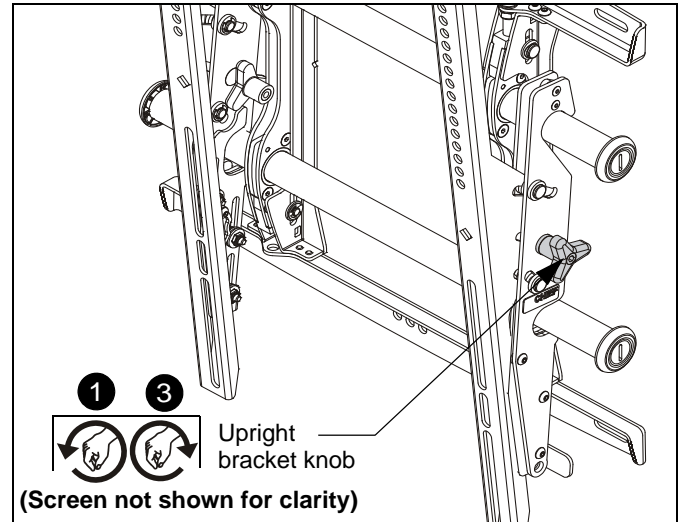

Figure 11
1. Turn upright bracket knobs to left to loosen tilt. (See Figure 11)
3. Lock at desired tilt by turning upright bracket knobs to right to tighten. (See Figure 11)